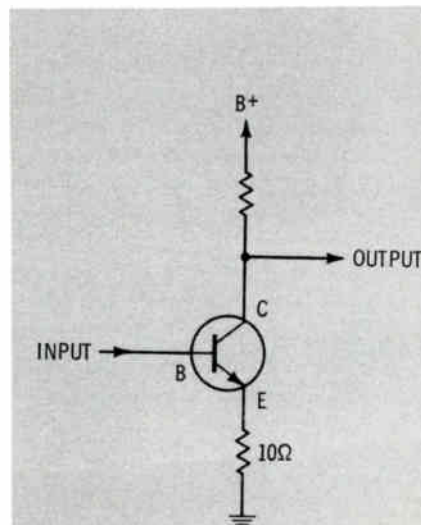

Fig. 1 Basic common-emitter circuit.
3. Unlike a tube, whose input impedance is normally in the order of thousands or millions of ohms, the input impedance of a transistor connected in a common-emitter circuit is quite low. As a general rule, it may be estimated by multiplying the impedance between the emitter and ground times the beta of the transistor. Thus, if the transistor shown in Fig. 1 has a beta of 100, the input impedance probably will be about 1000 ohms. Any biasing resistors in the base circuit will be shunted across this input impedance. This resistive component of the impedance might be shunted by a fairly low value of capacitive reactance, which will lower the impedance further. Naturally, if the emitter resistor is bypassed, the capacitive reactance "seen" at the base will approximate the reactance of the capacitor multiplied by the beta. To calculate this impedance, the frequency of operation has to be known.